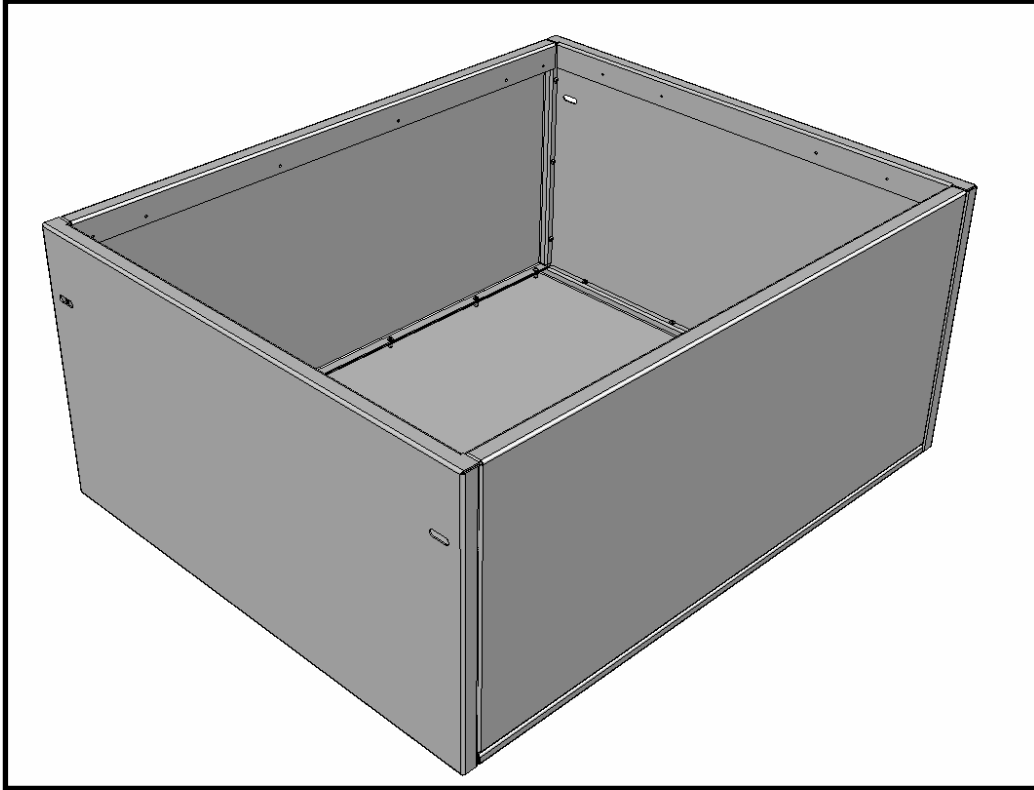

Figure 22 – Casing assembly
- e) Repeat steps (c) & (d) for the bottom panel. The mailbox casing is now complete. *See Figure 22.*